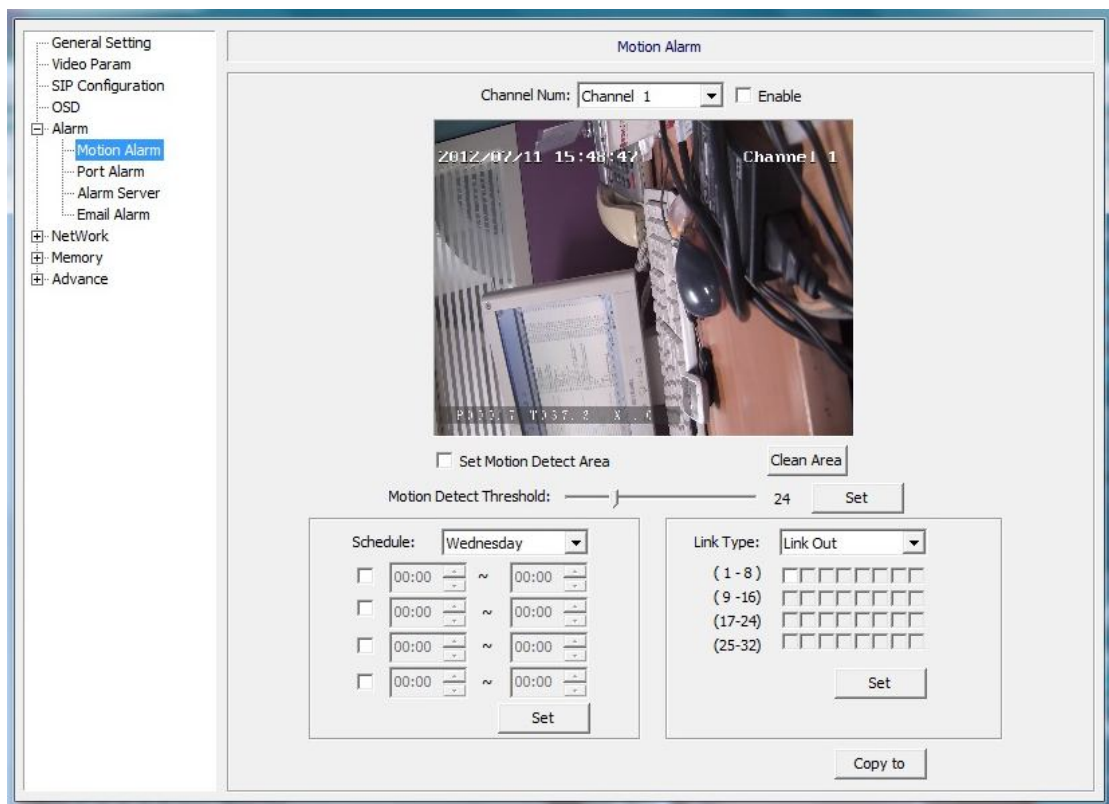

Fig. 1.15
**Motion alarm (Figure 1.15) :**